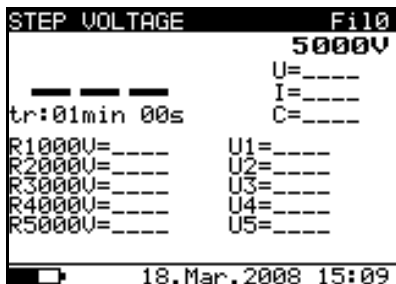
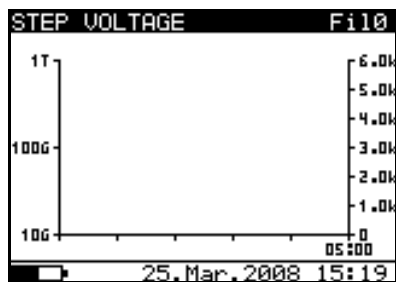

Fig. 38: Initial numerical screen
Fig. 40: Initial graphical screen
2. Select with arrow keys  $\blacktriangledown$  or  $\blacktriangle$  the item "STEP VOLTAGE" on main menu and confirm with **SELECT** key. The screen of Fig. 38 is shown by the meter. In case of activation of Graphic R(t) option press arrow keys  $\blacktriangledown$  or  $\blacktriangle$  to select the graphical screen of Fig. 40